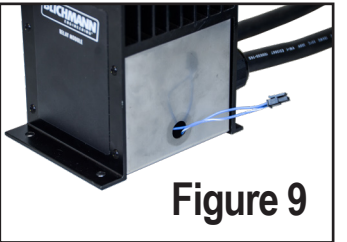

Figure 9
5. Run the jumper cable out the side of the controller as shown in Figure 9 and attach the bottom housing on the Relay Module.